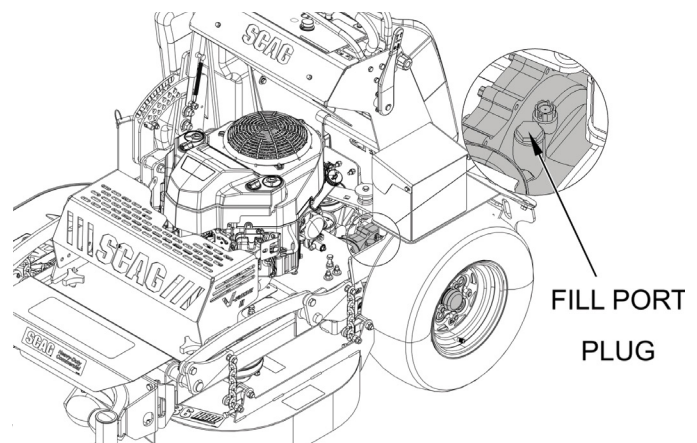

Figure 7-4. Left Side Fill Port Plug
10. Remove the fill port plug from both transaxles. See Figure 7-4.